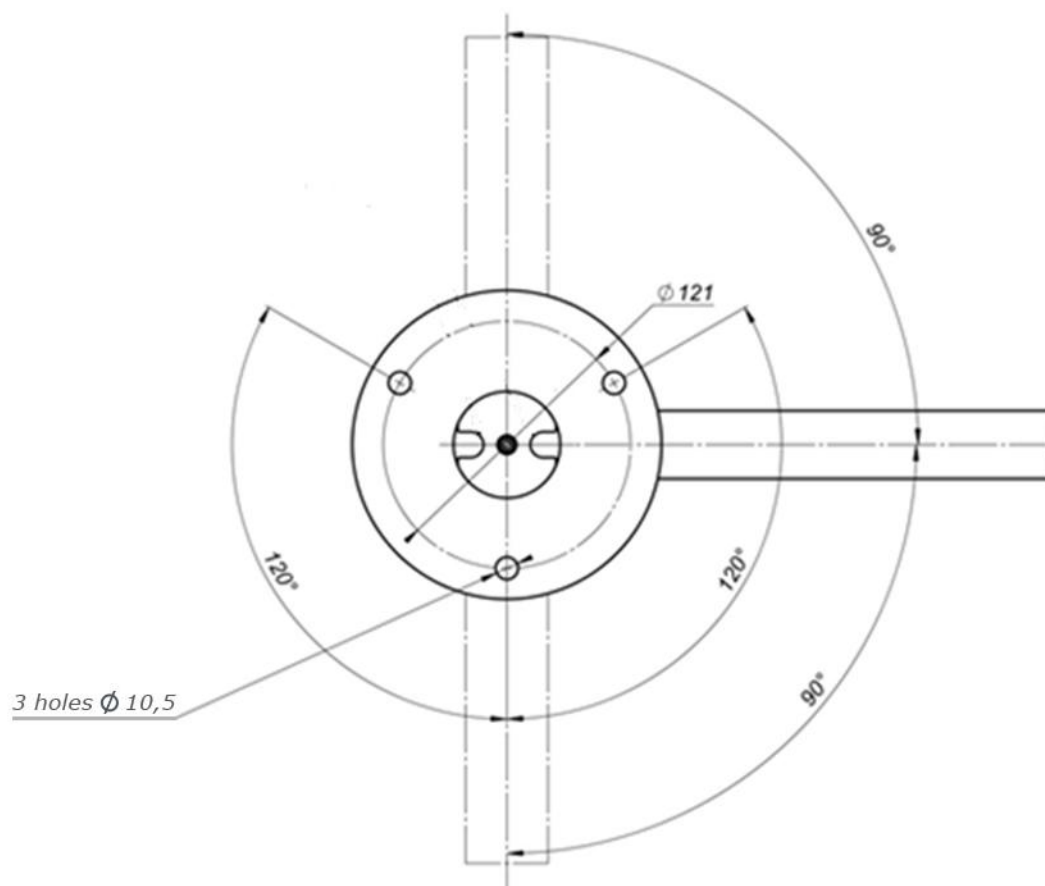

Fig. 4 Linkage dimension
7.2.5. Set the stand on prepared area (Fig. 4).